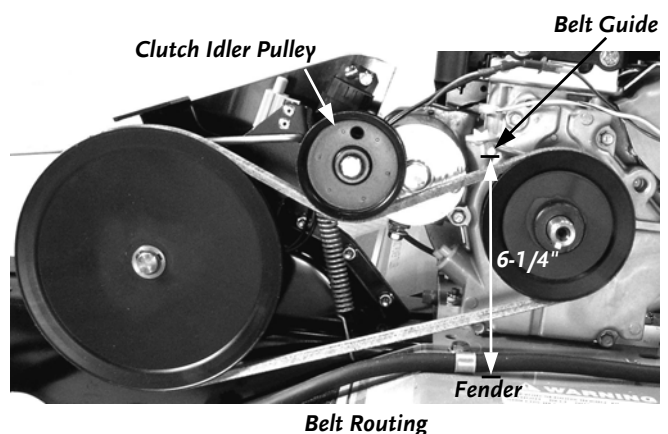

Figure 20
DO NOT MOVE OR REMOVE THE BELT GUIDE (FIGURE 20). IF YOU ACCIDENTALLY ALTER THE POSITION OF THE BELT GUIDE, RETURN IT TO THE CORRECT SETTING OF 6-1/4" VERTICAL INCHES FROM THE FENDER TO THE BOTTOM OF GUIDE (FIGURE 20).
Tip: Lifting up on the Clutch Idler Pulley (Figure 20) may help in removing the Belt.
4. Reinstall a new Belt (Figure 20), engage the Tine Clutch Lever, and replace the Belt Guard.